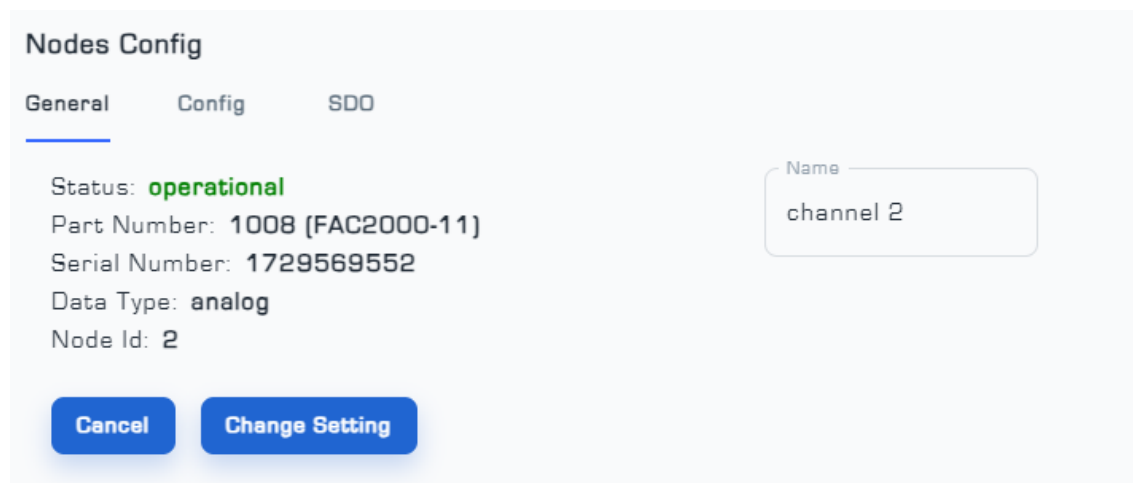

Figure 5: General Menu from Nodes Setting page
To apply the settings to the Node, click on it to display the Node settings page (Nodes Config) (Figure 5).
- The General menu includes information about the Node status, model, serial number, input data type, and Node number. You can also choose a custom name for the Node and even deactivate it if necessary (Figure 5).